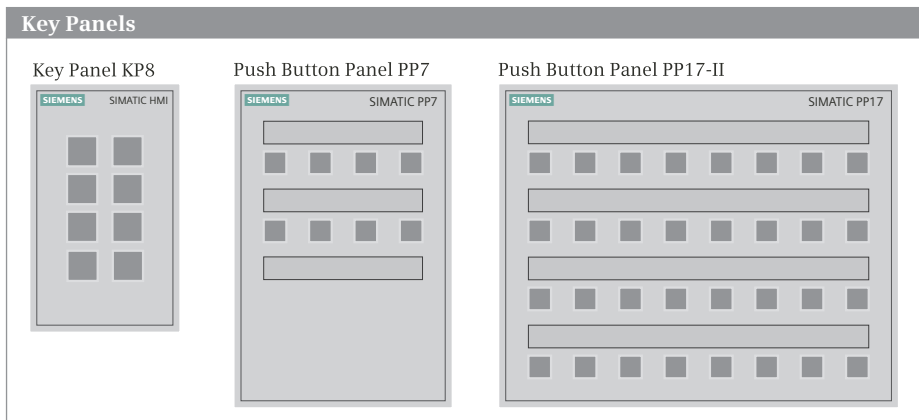

Fig. 7.2 Key Panel KP8/KP8F, Push Button Panels PP7 and PP17-II
Key Panels (KP) and Push Button Panels (PP) are the innovative alternative to conventionally wired key panels. Supplied pre-assembled and ready for installation, the bus-compatible operator panels are the key to drastically reducing wiring times when compared with conventional methods. Fig. 7.2 provides a graphic depiction of the Key Panel KP8 and the two Push Button Panels PP7 and PP17.